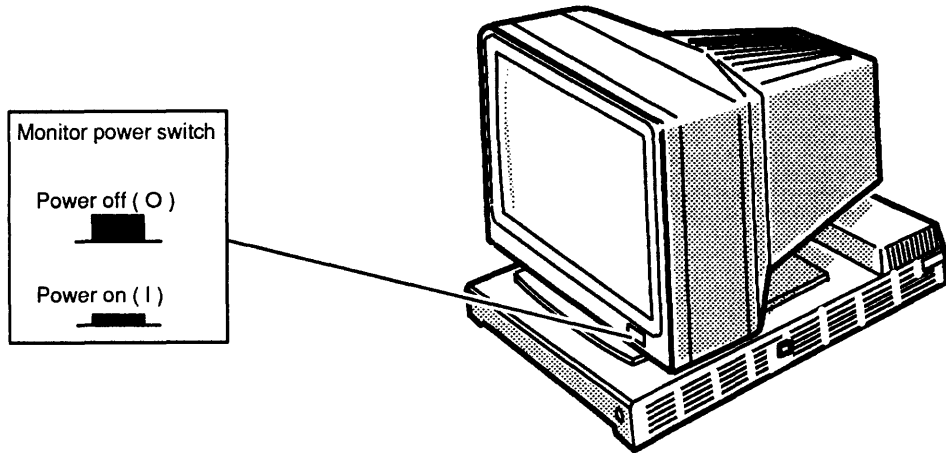

Figure 3-1 Monitor Power Switch
1. Turn on power to the monitor, as shown in Figure 3-1.